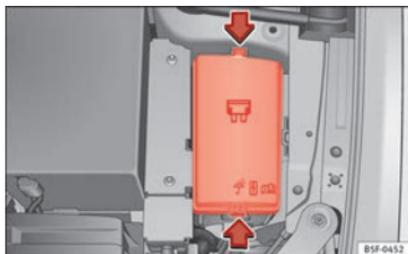

Fig. 203 In the engine compartment: fuse box cover
- Press the locking tabs to release the fuse box cover »» Fig. 203.